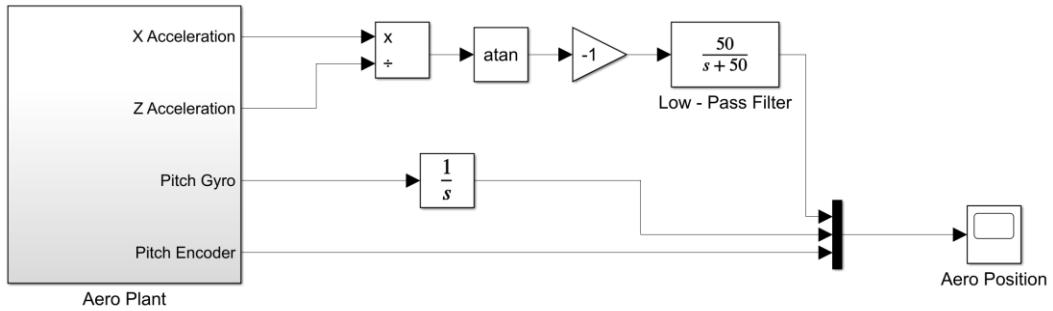

Figure 4: Calculating angle from acceleration and angular velocity
3. Again, modify the QUARC model as shown in Figure 4 to calculate the Aero body pitch from the gyroscope readings using an integrator block.